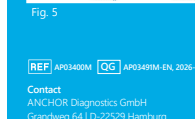

Fig. 5
- Remove Multi Plates from instrument and collect eluates from columns 6 and 12 (Fig. 5)